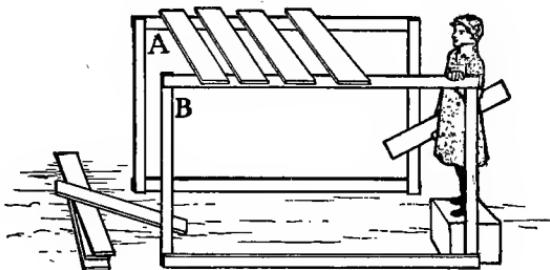

FIG. 414.—The Framework for the Snow Tunnel.
**Construct a Framework** similar to that shown in Fig. 414 to support the roofs. This will prevent the roofs from collapsing when the snow begins to melt.
The framework consists of two side frames (*A* and *B*, Fig. 414), with boards laid across the tops. The frames may be made indoors, then carried out to the spot upon